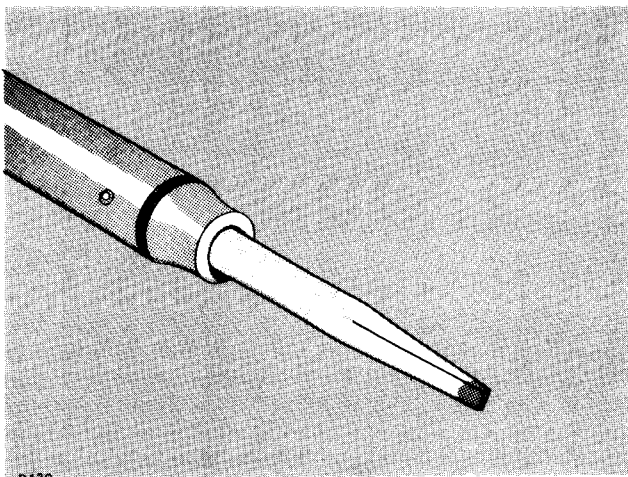

Fig. 5-2. Soldering iron tip properly shaped and tinned.
Because of the shape of the terminals on the ceramic strips it is advisable to use a wedge-shaped tip on your soldering iron when you are installing or removing parts from the strips. Fig. 5-2 will show you the correct shape for the tip of the soldering iron. Be sure to file smooth all surfaces of the iron tip to be tinned. This prevents solder from building up on rough spots where it will quickly oxidize.
2. Prepare the tip of the iron as shown in Fig. 5-2.